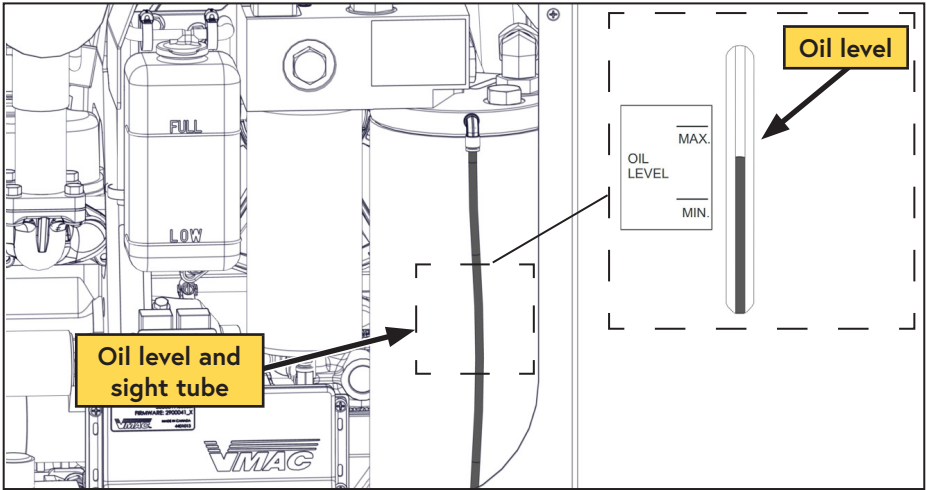

Figure 5 — Add compressor oil
- Using a funnel, add oil to the AOST until it reaches the "MAX" line on the sight glass on the front of the AOST. The air compressor system holds approximately 1 USG (4 L) of oil when dry (Figure 5).